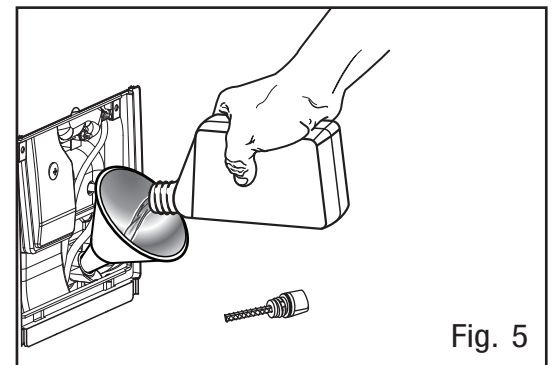

Fig. 5
3. Using an oil funnel or appropriate dispenser, slowly add oil into the oil fill (Fig. 5), being careful not to overfill the unit. Fill the crankcase to the upper fill line so you can visually see the oil coming halfway up the oil fill threads (Fig. 6).